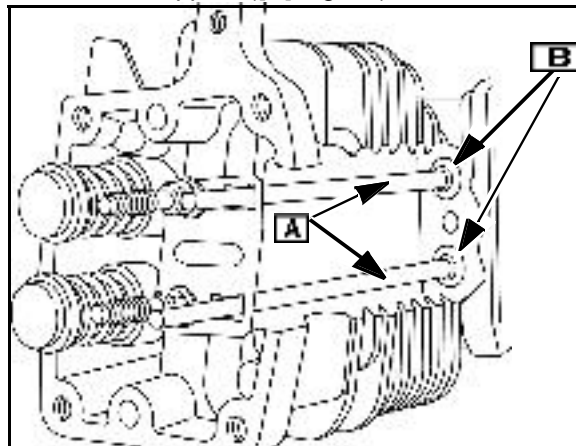

Fig. 32
1. Install push rods (A) through push rod guide. Make sure push rods are seated in valve tappets ([B] Fig. 32).